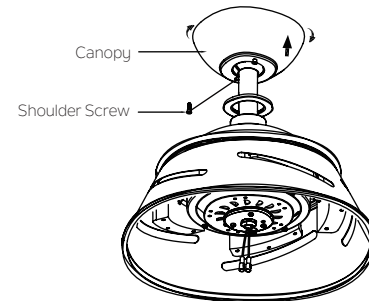

Fig. 16
Step 2. Assemble canopy by rotating key slot in canopy over shoulder screw in mounting bracket. Reinstall the shoulder screw that was previously removed, then retighten two shoulder screws securely.(Fig.16)